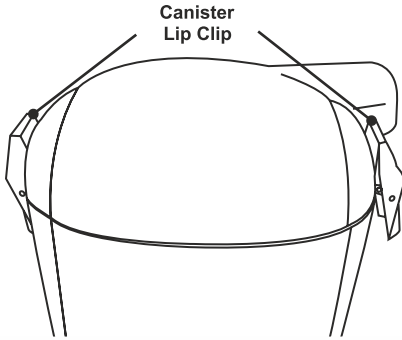

Fig 1
2. To open the canister lid press on the canister lid tabs on each side of the unit and lift canister lid. (Fig.1)